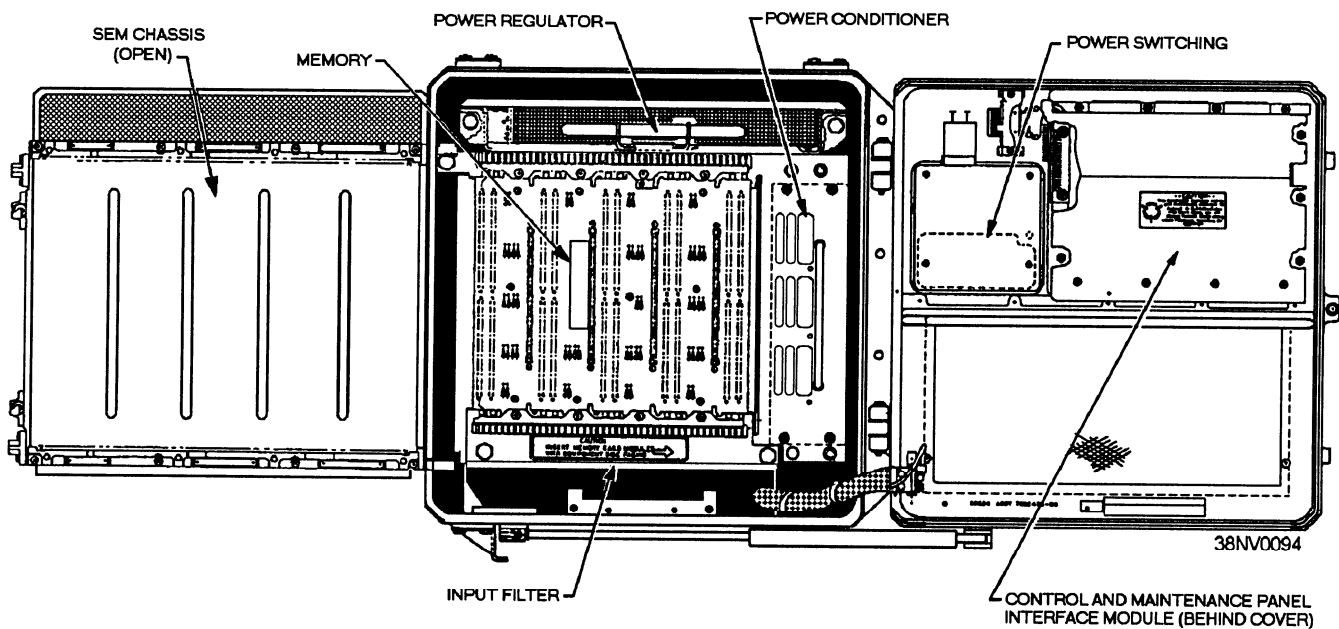

Figure 2-6.—Example of a chassis used in a minicomputer.
**CHASSIS OR ASSEMBLY.** —Chassis or assemblies usually are door mounted or slide mounted. Computers that use chassis or assemblies may contain one or more chassis or assemblies for the whole system. For example, one chassis may be dedicated only for memory, one for the power supply, and a third chassis or assembly for the rest of the computer (the CPU and the I/O). One to several subassemblies or printed circuit boards (pcb’s) may comprise the CPU, I/O, or memory. Figure 2-6 is an illustration of a chassis used in a minicomputer.